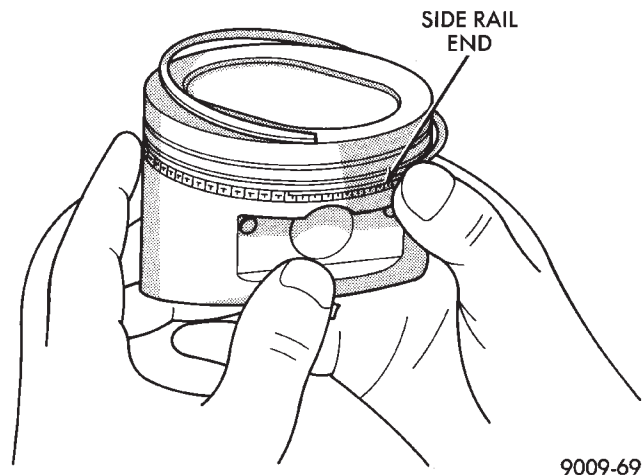

Fig. 13 Side Rail—Installation
(7) Install the side rail by placing one end between the piston ring groove and the expander. Hold end firmly and press down the portion to be installed until side rail is in position. **Do not use a piston ring expander during this step (Fig. 13).**